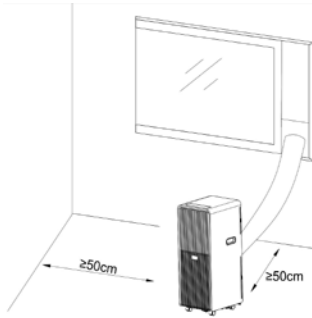
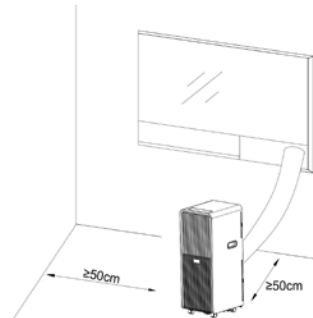

Fig. 7
Fig. 8
2. As shown in Fig.7 and Fig.8, install the exhaust hose, and adjust the window position well.